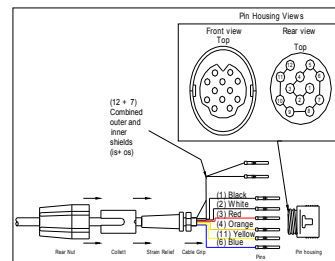

Fig 2.2
9. Solder all remaining wires to the rear of separate pins and insert firmly into correct locations shown in fig 2.2.